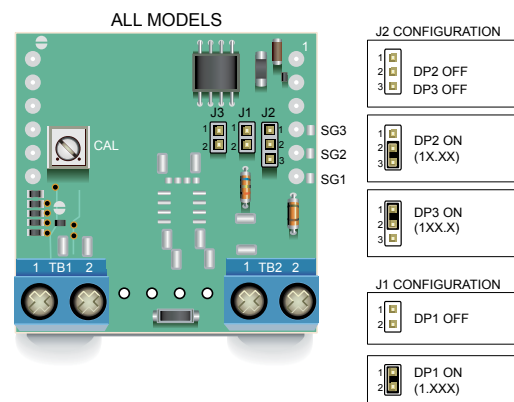

Figure 7. Decimal Point Selection Using J2 and J1 (Applies to All Models)
- Decimal Point Selection:** As shown in the Ordering Information guide, DCA5-20PC ammeters are multiple input-range devices. For example, with a 50mV input, DCA5-20PC-1-DC1 models can be configured to display "5.00", "50.0", or "500" Amps by simply removing or relocating decimal-point-selector jumper J2 (see Figure 7). Decimal points serve as placeholders only; they have no effect on displayed accuracy or resolution. If jumper J2 is not available, solder gaps SG1, SG2, or SG3 can be used to select DP1 ("1.XXX"), DP2 ("1X.XX"), or DP3 ("1XX.X"), respectively.